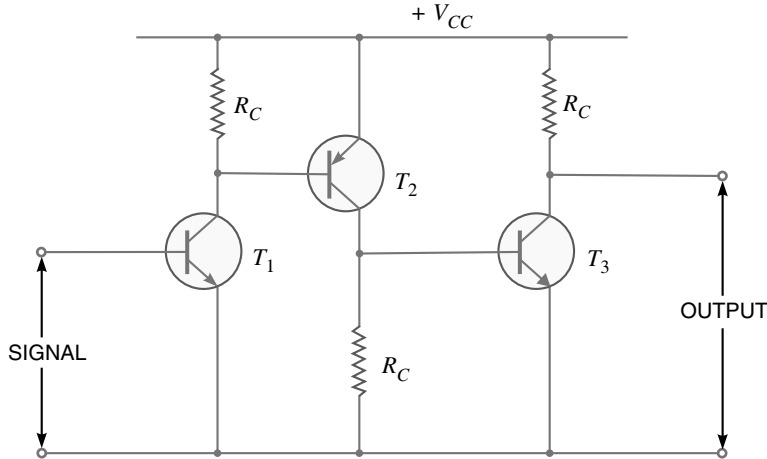

Fig. 9.28
**Circuit details.** Fig. 9.28 shows the circuit of a three-stage direct-coupled amplifier. It uses \*complementary transistors. Thus, the first stage uses *nnp* transistor, the second stage uses *pnp* transistor and so on. This arrangement makes the design very simple. The output from the collector of first transistor  $T_1$  is fed to the input of the second transistor  $T_2$  and so on.